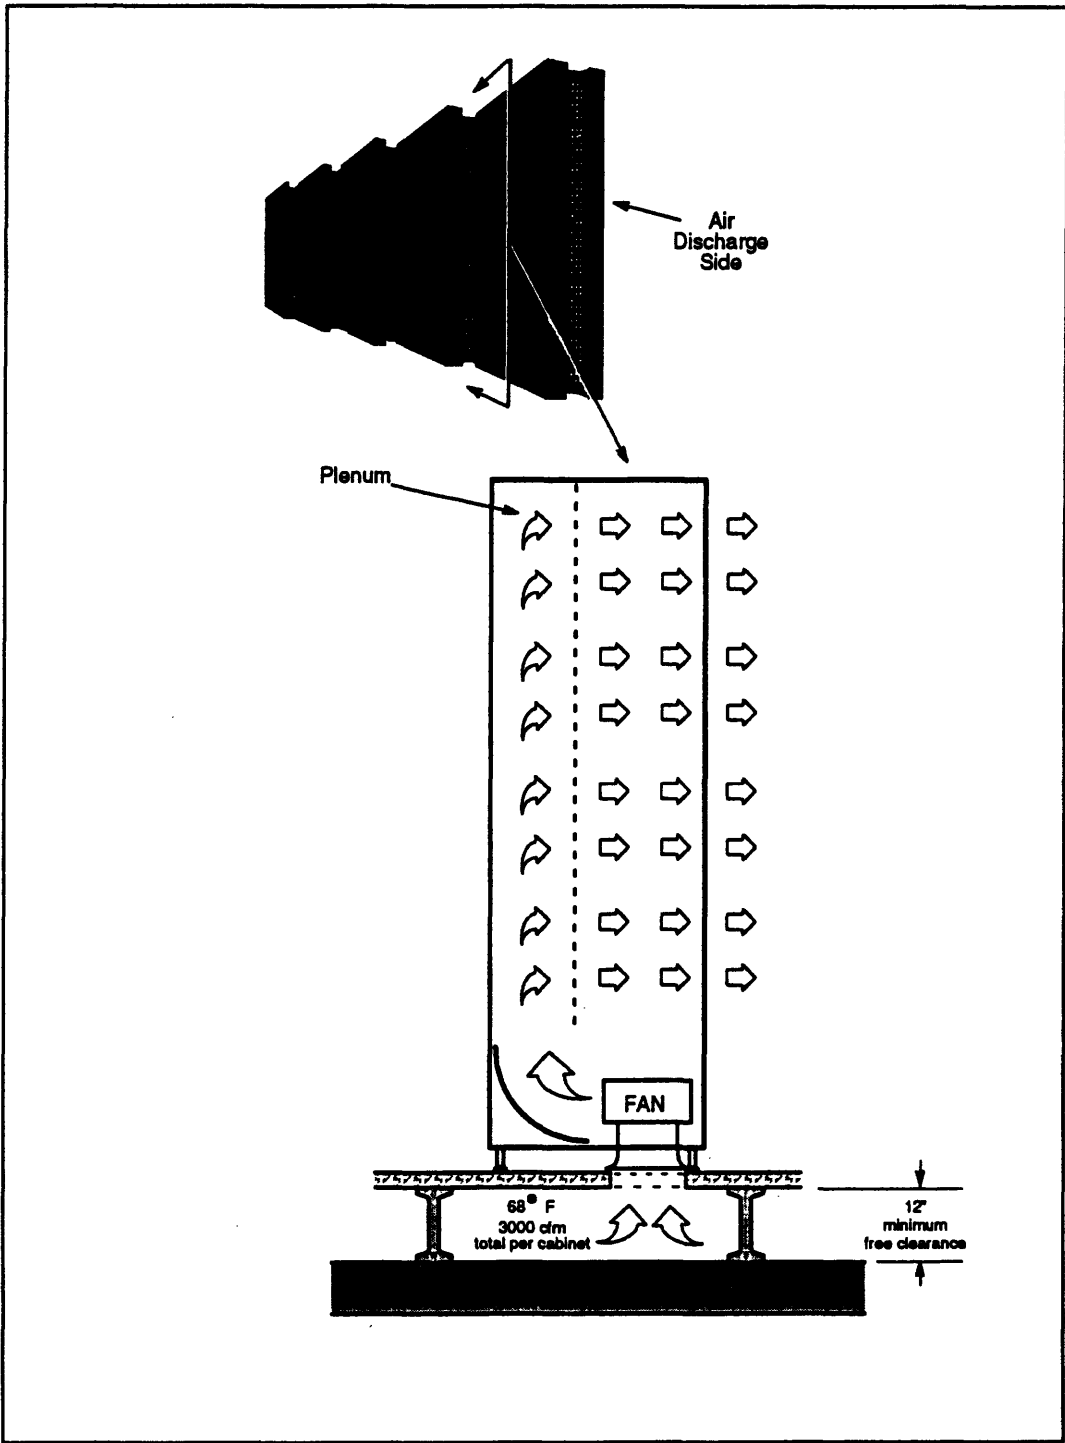

Figure 17. Cabinet cooling air flow — cutaway view
- ___ Verify that the computer room floor is raised at least 12 inches. See Figure 17.